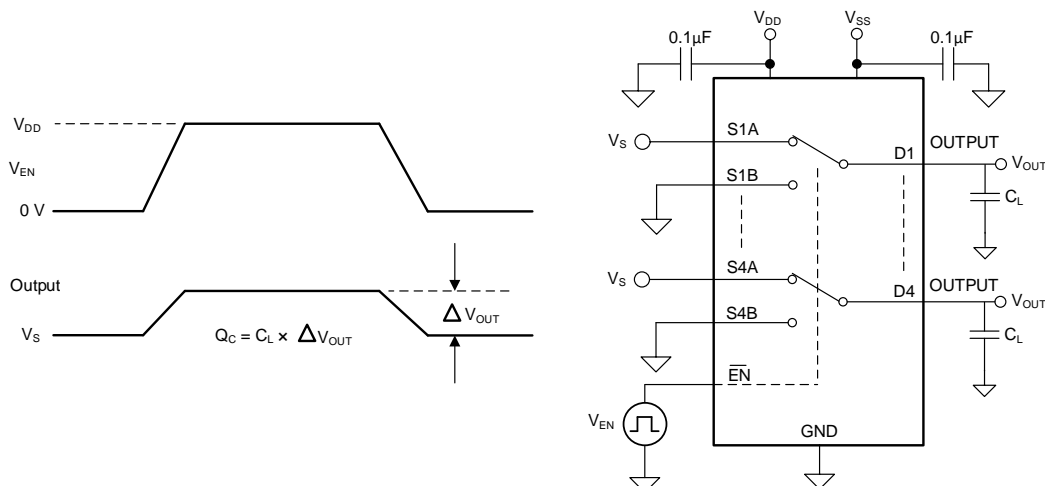

Figure 22. Charge-Injection Measurement Setup
The TMUX1133 has a transmission-gate topology. Any mismatch in capacitance between the NMOS and PMOS transistors results in a charge injected into the drain or source during the falling or rising edge of the gate signal. The amount of charge injected into the source or drain of the device is known as charge injection, and is denoted by the symbol Q_C . Figure 22 shows the setup used to measure charge injection from source (Sx) to drain (D).